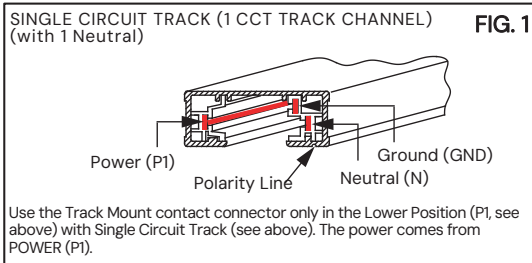
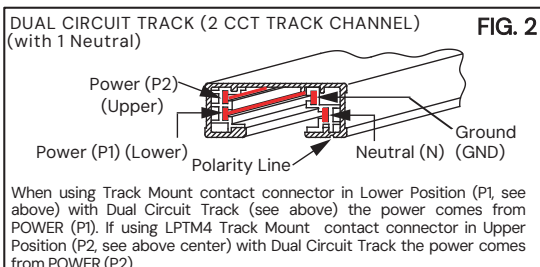
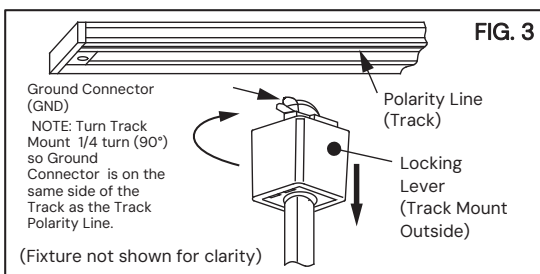
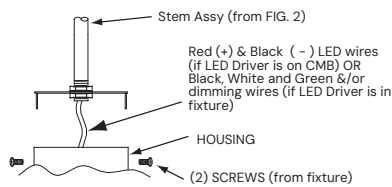

FIG. 1
FIG. 2
FIG. 3
FIG. 3
1. If necessary, remove the Mounting Plate Assembly (MPA) from the Housing Assembly by loosening the two (2) M3 screws on the sides of the fixture (see FIG. 1).
6. Align the two (2) tabs on the Mounting Plate Assembly with the corresponding slots in the Housing Assembly (see FIG. 1).
1. If necessary, remove the Mounting Plate Assembly (MPA) from the Housing Assembly (see FIG. 1) by loosening the two (2) M3 screws located on the sides of the fixture.
- a. Single Circuit Track (see FIG. 1)
- b. Dual Circuit Track (see FIG. 2)
4. Locate the polarity line on the track and the ground contact side of the Track Mount (see FIG. 2 and FIG. 3).
5. Pull down on the locking lever of the track mount and insert the adapter contacts into the corresponding slots of the Liton Single or Dual Circuit Track (see FIG. 3).
NOTE: If Stem Assembly parts (see above) are assembled (see FIG. 2) when removed from box then go to FIG. 3 (right). If not then go to FIG. 1 (below).
- Align the two tabs on the mounting plate with the corresponding slots in the top of the housing assembly (see FIG. 1).
NOTE: If Stem Assembly parts (see above) are assembled (see FIG. 2) when removed from box then go to FIG. 3 (page 2). If not then go to FIG. 1 (right).